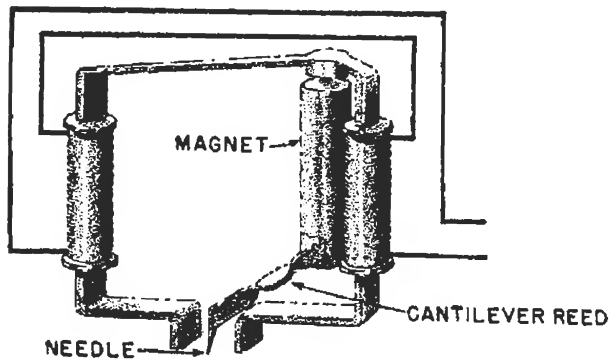

FIG. 36. One type of variable reluctance pickup.
**Variable Reluctance Pickup.** The variable reluctance pickup, a typical example of which is shown in Fig. 36, is a variation of the magnetic type. However, the difference in the amount of needle pressure needed is appreciable. A magnetic head must be heavy
As Fig. 36 shows, there are two paths for magnetic flux in this pickup. In each path, flux flows from the magnet through half of the pickup coil and through the reed back to the magnet. The position of the vibrating reed in the air space between the two coil cores determines how much flux flows in each half of the coil at any instant. When the reed is near one of the cores, the flux through the half of the coil wound around the other core decreases. The two halves of the coil are wound in opposite directions around their cores, however, so a decrease in flux through one has the same effect as an increase in flux through the other. This doubles the effect of the movement of the reed in producing a signal.